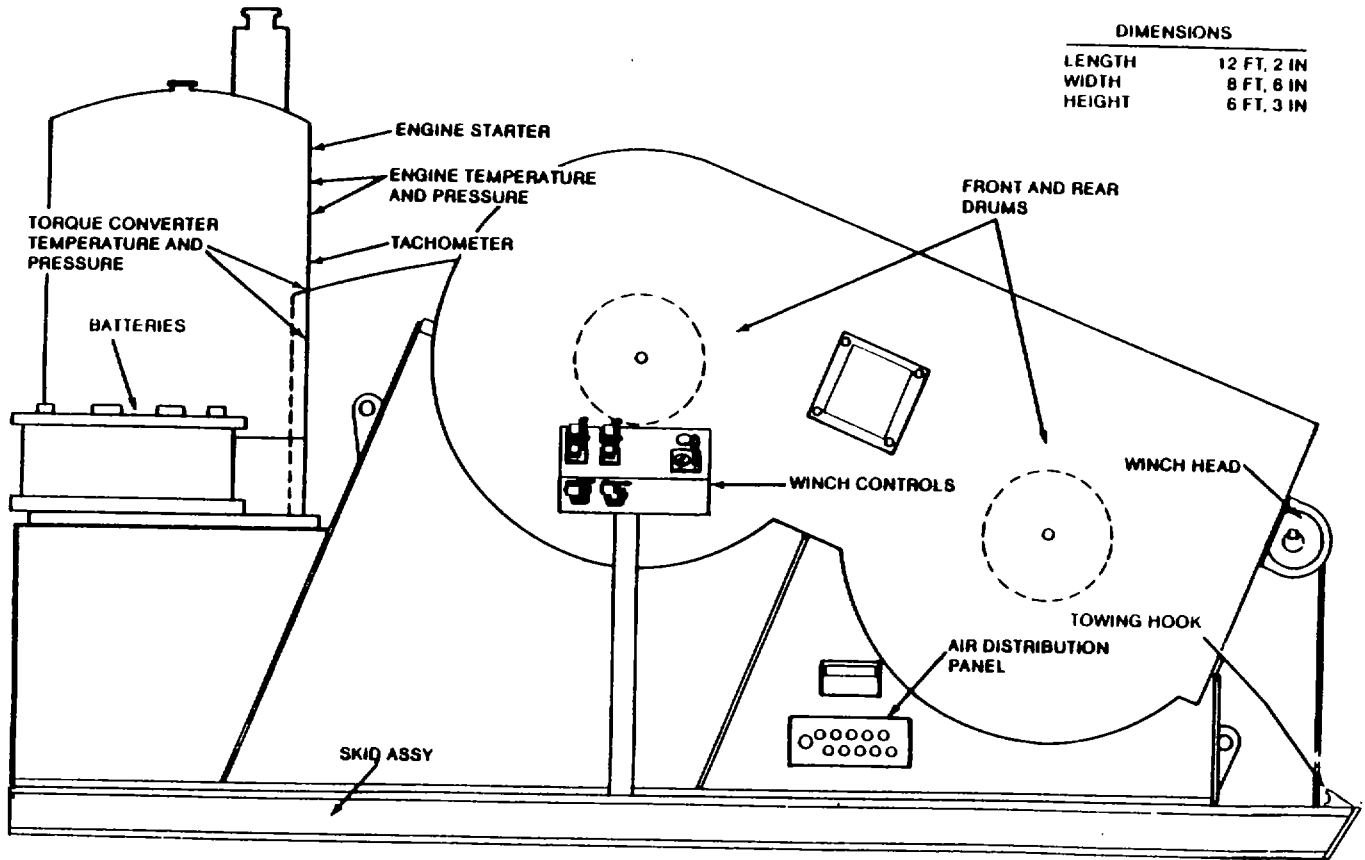

Figure 4-1. Mounting Dimensions - Winch to Skid.
(1) Refer to figure 4-1 for mounting winch assembly on skid or barge deck.
(2) Use a suitable hoist with at least 20,000 pounds capacity to lift and lower unit onto suitable blocking approximately 9-12 inches high. Slip aluminum skids under sides of winch frame and install the nuts, bolts and lockwashers. It is not necessary to torque these bolts.